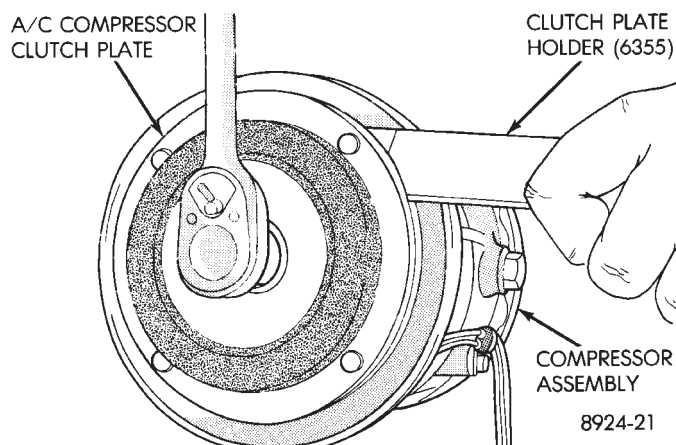

Fig. 3 Remove or Install Front Plate Retaining Nut
- (1) Remove clutch retaining center nut by using Clutch Plate Holder (6355) (Fig. 3).